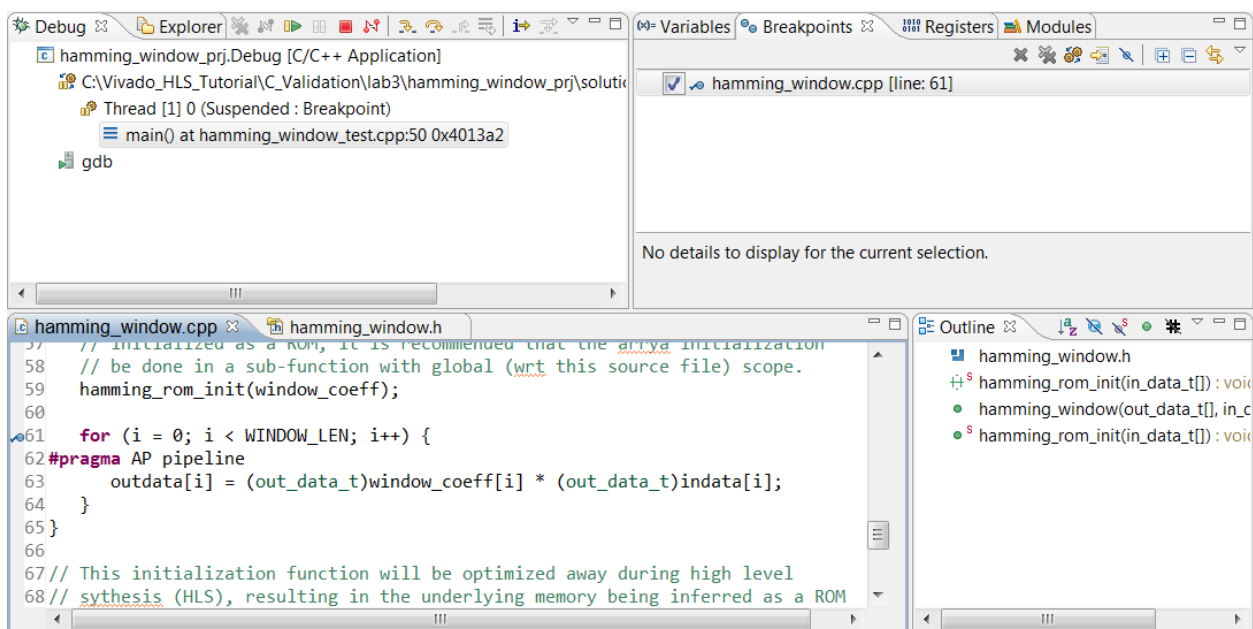

Figure 51: Debug Environment for C Validation Lab 3
5. Set a breakpoint at line 61 as shown in **Figure 51**.